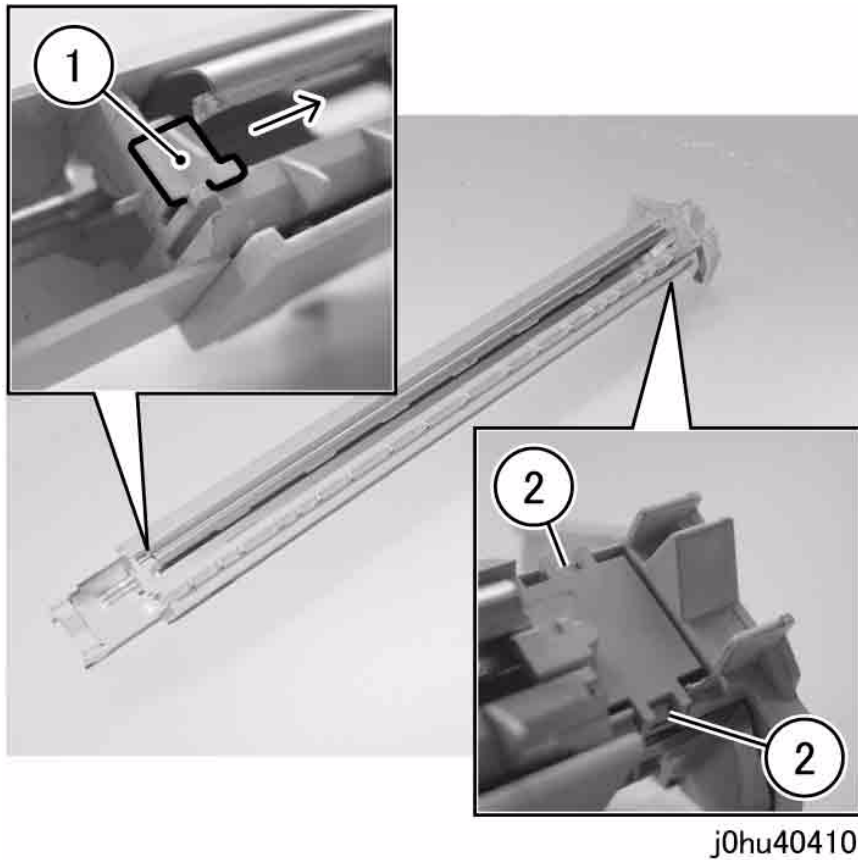

Figure 2 Remove Front/Rear Covers
- Remove the Front/Rear Covers (Figure 2).
- (1) Remove the Rear Cover in the direction of the arrow.
- (2) Release the tabs (2) to remove the Front Cover.